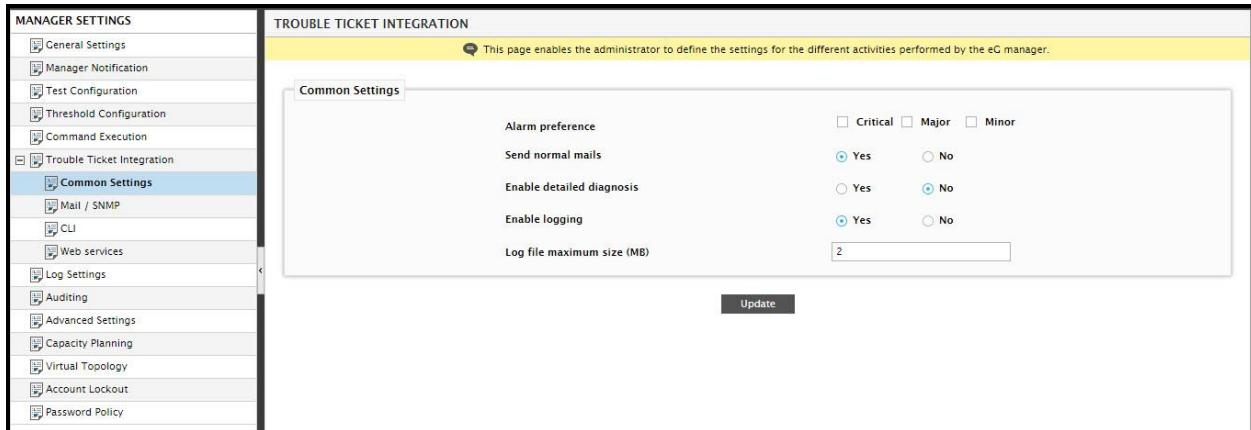

Figure 1.1: Configuring the common integration settings
3. Figure 1.1 will then appear. From the **MANAGER SETTINGS** tree in the left panel of Figure 1.1, expand the **Trouble Ticket Integration** node. Then select the **Common Settings** sub-node. A **Common Settings** section will open in the right panel, as depicted by Figure 1.1.
- Finally, click the the **Update** button in Figure 1.1 to save the settings.